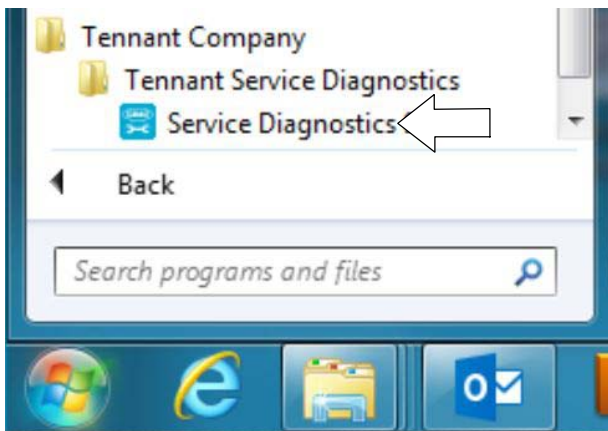

Fig. 15
The software application is titled **“Service Diagnostics”**. (Figure 15).
- After the application software is installed on your computer, refer to figure 15 to access the program.